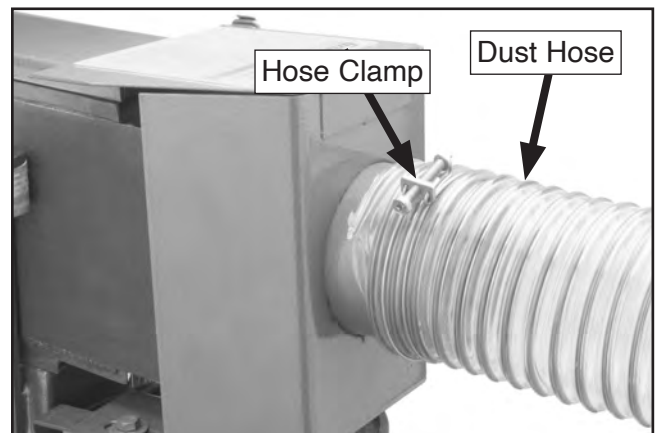

Figure 32. Example of dust hose attached to dust port.
1. Fit 4" dust hose over dust port, as shown in **Figure 32**, and secure in place with hose clamp.